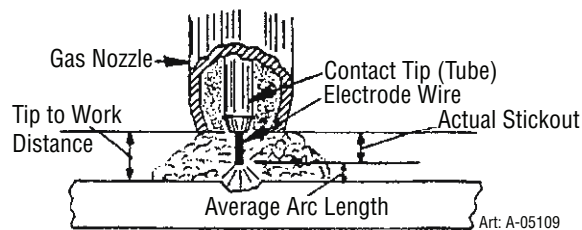

Figure 4-9: Electrode Stick-Out
3. Nozzle Angle. (Figures 4-9 and 4-10) This refers to the position of the welding gun in relation to the joint. The transverse angle is usually one half the included angle between plates forming the joint. The longitudinal angle is the angle between the center line of the welding gun and a line perpendicular to the axis of the weld. The longitudinal angle is generally called the Nozzle Angle and can be either trailing (pulling) or leading (pushing). Whether the operator is left-handed or right-handed has to be considered to realize the effects of each angle in relation to the direction of travel.